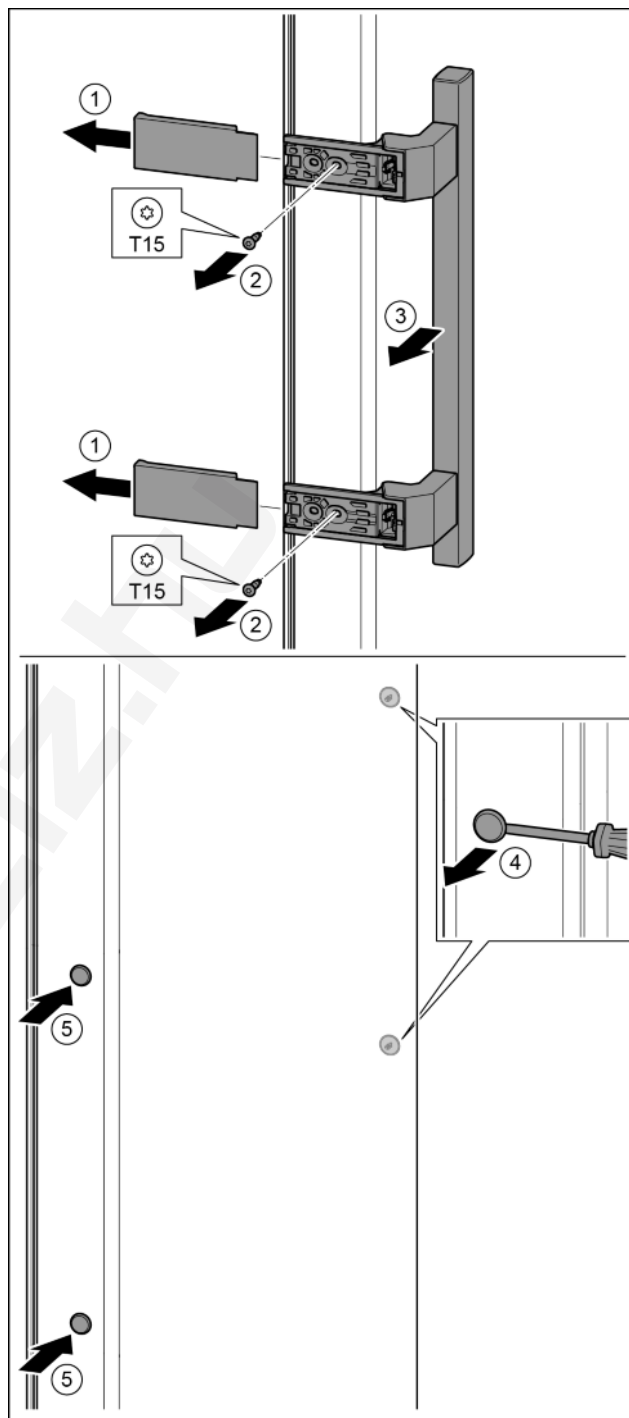

Fig. 14
- Pull off the cover. Fig. 14 (1)
- Remove the screws with the T15 screwdriver. Fig. 14 (2)
- Remove the handle. Fig. 14 (3)
- Carefully lift up the side plugs with a slotted screwdriver and pull them out. Fig. 14 (4)
- Insert the plugs again on the other side. Fig. 14 (5)